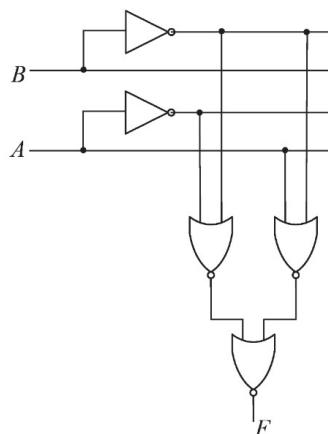

Fig. 3.16
31. The logic block shown in Fig. 3.16 has an output F given by _____.